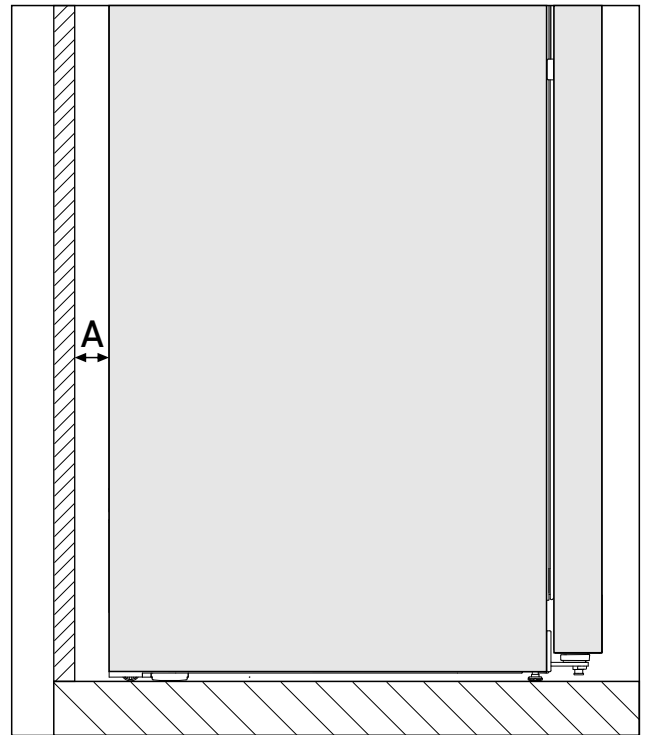

Fig. 2 \*
The energy consumption has been determined with a gap of Fig. 2 (A) between the rear of the appliance and the wall. If the wall gap is less than Fig. 2 (A), this does not affect the appliance's operability but the energy consumption does increase slightly at a smaller wall gap.\*